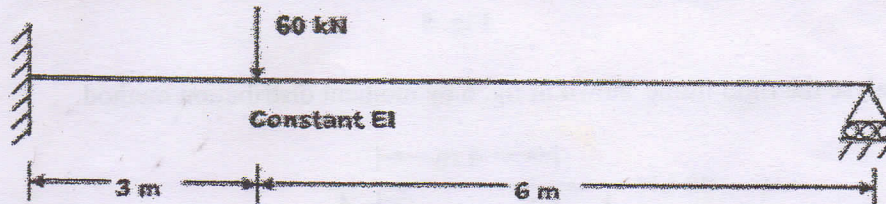

Fig.1
- II. A propped cantilever beam AB is subjected to a concentrated load of 60 kN at 3 m from end A as shown in fig. 1. Draw the bending moment and shear force diagrams by the force method. Assume that the flexural rigidity of the beam, EI to be constant throughout.